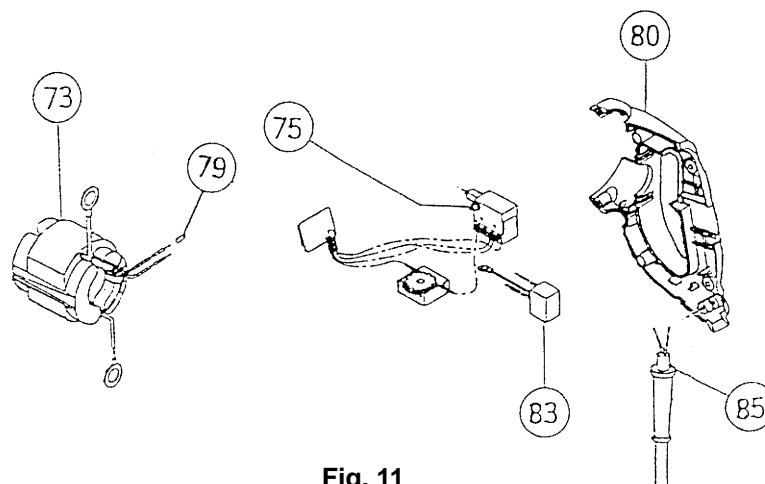

Fig. 11
(9) Disassembly of Handle (B) [80] and the Switch [75] section (Fig. 11)